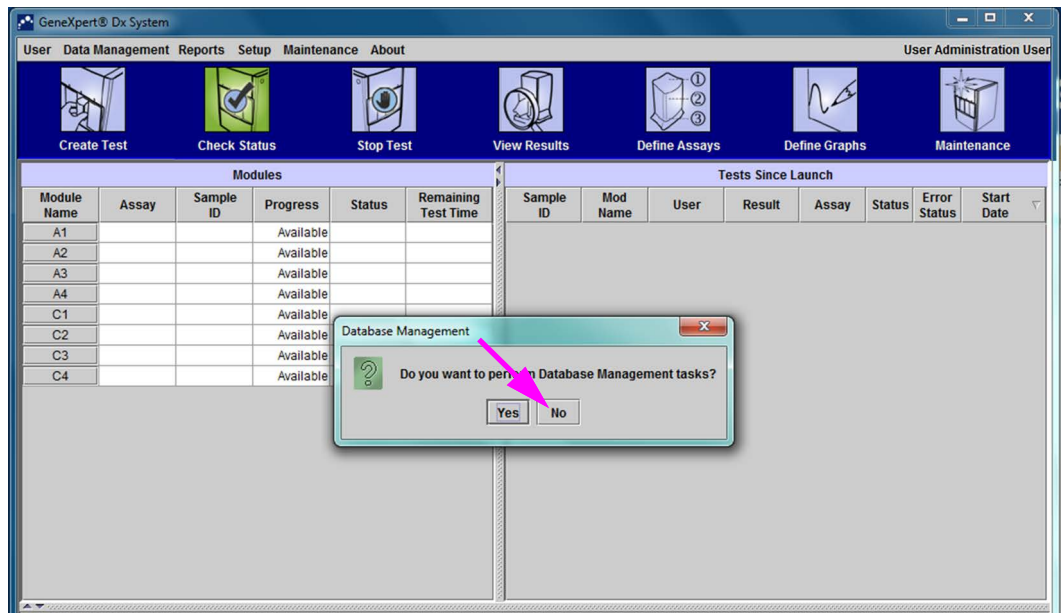
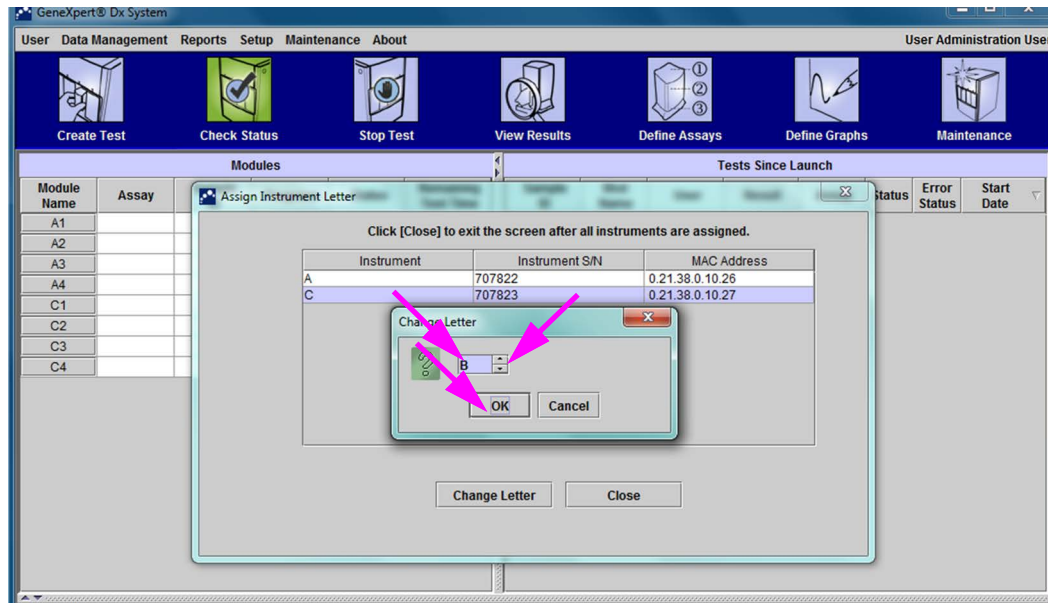
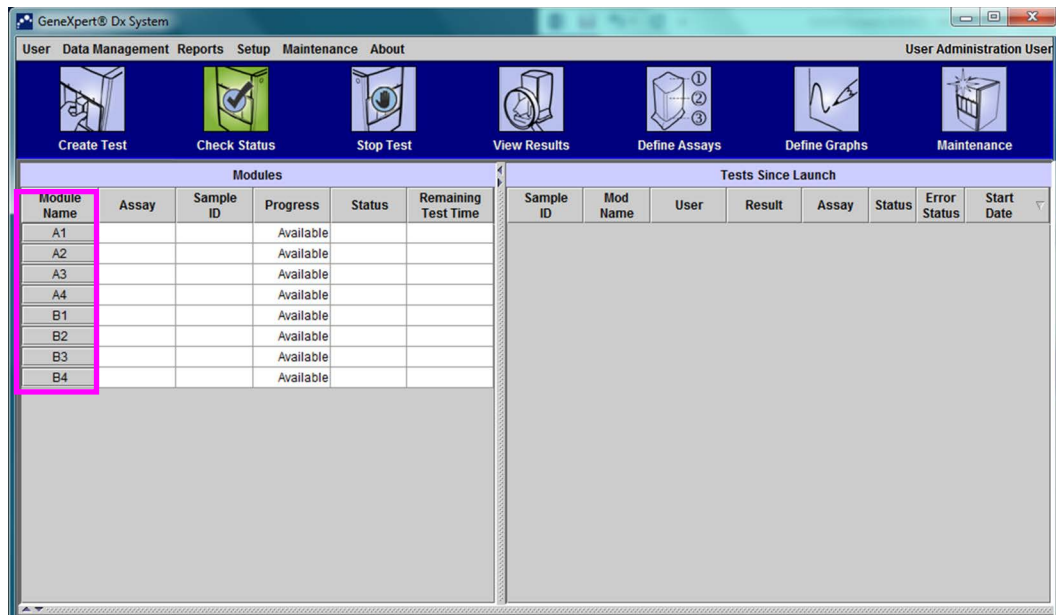
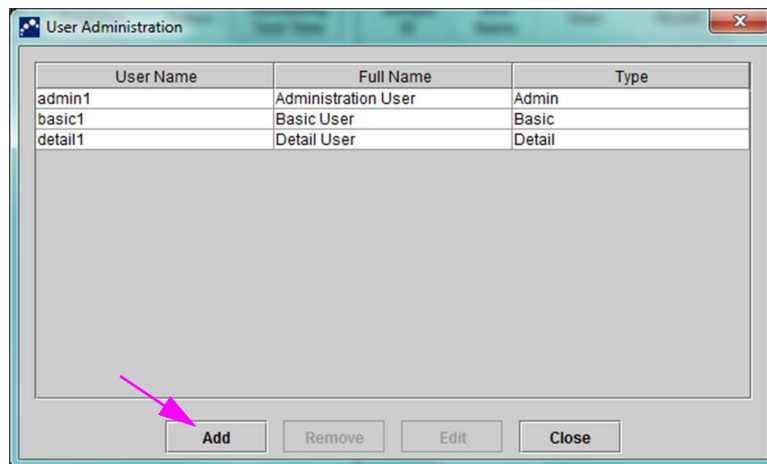

Figure 2-44. GeneXpert Dx System Window with Database Management Dialog Box Overlay
Figure 2-48. GeneXpert Dx System Window with Change Letter Dialog Box Overlay
Figure 2-49. GeneXpert Dx System Window showing New Module Letter Assignments
Figure 2-50. User Administration Dialog Box
The GeneXpert Dx software automatically assigns a letter (A, B, C or D) to identify each quadrant of the GeneXpert GX-XVI instrument connected to the computer. Figure 2-44 shows how each quadrant of the GX-XVI is seen by the system.
3. To ensure that letter assignments match the GeneXpert GX-XVI instrument, click **Setup** in the menu bar, on the GeneXpert Dx System window (see Figure 2-48), and then select **Assign Instrument Letter** from the drop-down menu. The Assign Instrument Letter dialog box is displayed (see Figure 2-49). At the same time, the green LED indicators of four modules that comprise the selected quadrant will flash.
4. To change the assignment letter, click to select the instrument to change and then click **Change Letter** in the Assign Instrument Letter dialog box (see Figure 2-49). The Change Letter dialog box appears, as shown in Figure 2-50. Select the letter to be assigned to the module(s) by using the up and down arrows of the Change Letter dialog box. Select the letter that corresponds to the quadrant defined by the four flashing modules. For example, if the lower-right set of modules (Quadrant B in Figure 2-44) is flashing, select **B** as the new letter.
5. After changing the assignment letter, click **OK**. See Figure 2-50.
6. Click **Close** to close the Assign Instrument Letter dialog box (see Figure 2-49).